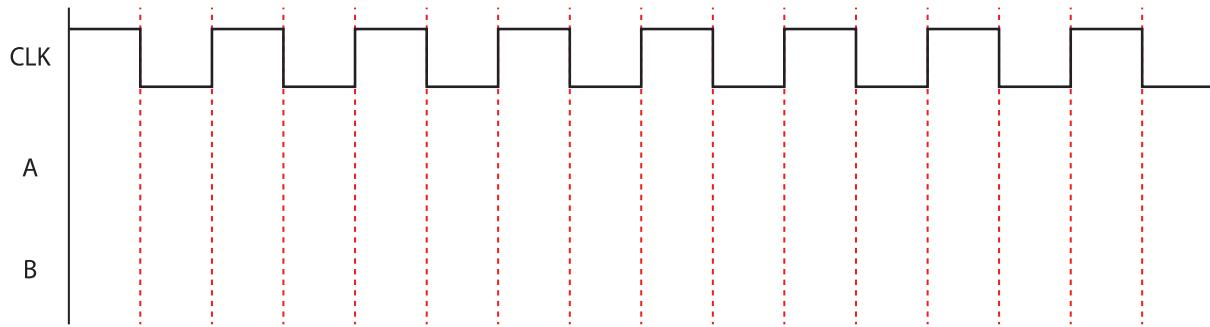

Figure 12.5
5. Modify your circuit and view the output waveform from each stage. Sketch the timing diagram on Figure 12.5 of the report.